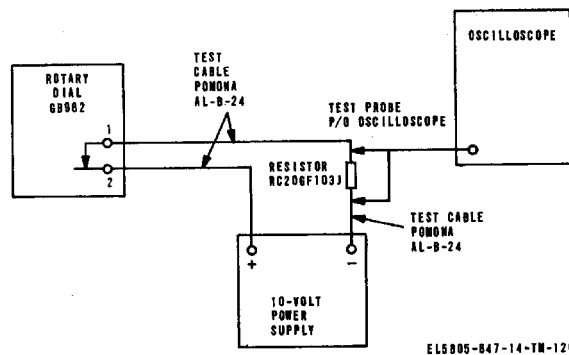

Figure 6-27. Rotary Dial GB982, performance-test setup diagram.
- (1) Connect the test equipment as shown in figure 6-27.
- (2) Adjust the power supply for 10 vdc.
- (3) Adjust the trigger control of the oscilloscope so that the sweep starts at the beginning of the first break pulse from the dial and adjust the time base so that the tenth pulse from the dial occurs just before the end of the horizontal sweep period.
(4) Dial digit 0; repeat as necessary. From the oscilloscope, calculate the rate of the pulses. The pulse rate must be between 9 and 11 pulses per second.
(5) Dial a digit to provide a pulses train on the oscilloscope; repeat as necessary. Adjust the time base of the oscilloscope so that the pulse break period can conveniently be measured. The pulse break period must be 65.5 ± 4 percent of one pulse duration.
(6) Turn off and disconnect the test equipment.